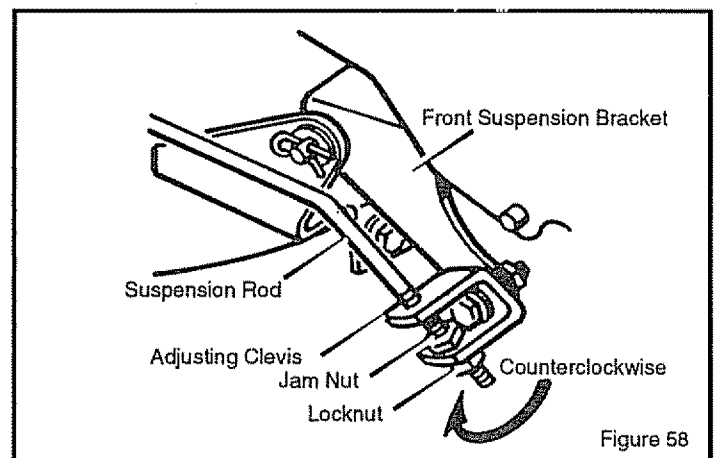

Figure 58
1. Loosen the jam nut (Figure 58).